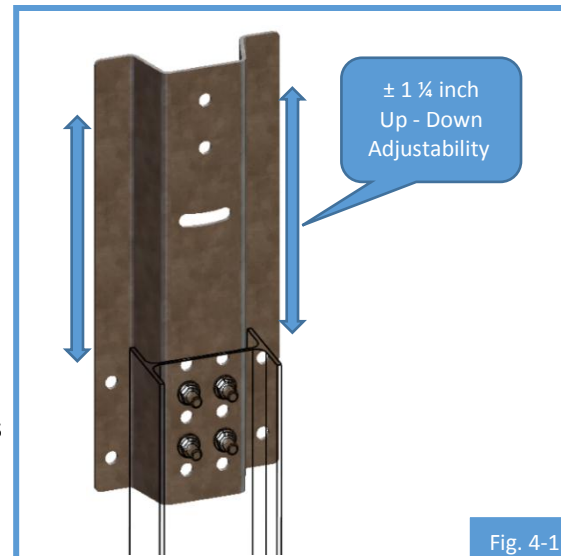

Fig. 4-1
- Top Bracket Up – Down: ± 1.25 inches (32 mm) (Fig. 4-1)